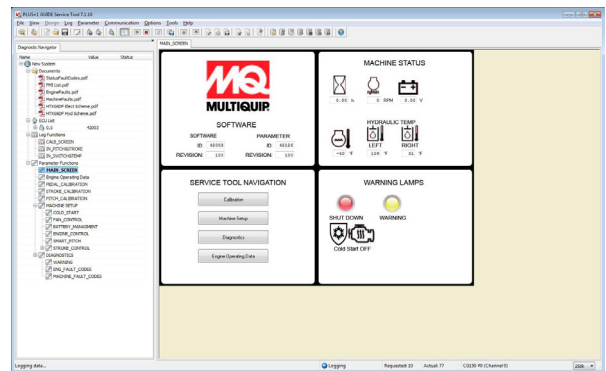
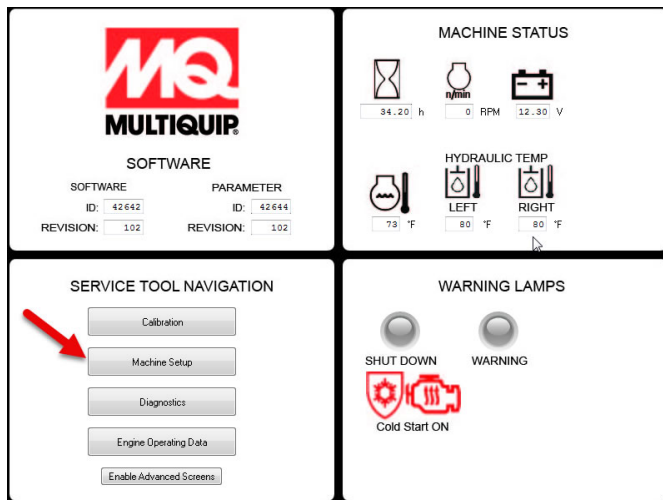

Figure 19. Service Tool Main Screen
Figure 20. Machine Setup Screen
6. On the Service Tool software on your laptop, the main screen should show Software info loaded from trowel MCU and the Machine Status box shows lamps lit (Figure 19).
4. On the service tool main screen (Figure 19), click "Machine Setup" button (Figure 20).